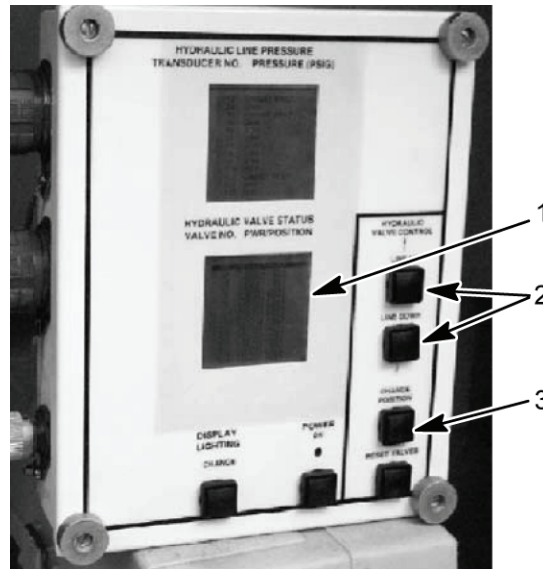

Figure 28. HDC Control Box
- Open main ejector valve; by using LINE UP or LINE DOWN button (Figure 28, item 2), select V1 on the HDC display (Figure 28, item 1). Open V1 on the HDC display (Figure 28, item 1), by selecting the CHANGE POSITION button (Figure 28, item 3) on the HDC control box.